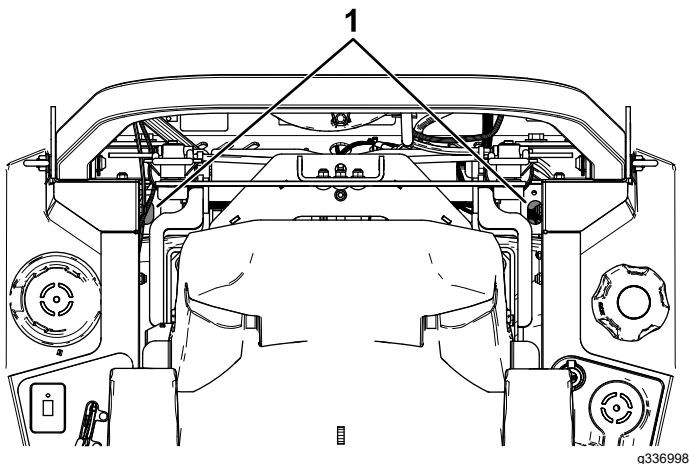

Figure 70
4. Using an extension and 7/16-inch socket, access the vent plug from the top of the machine through the holes near the roll-bar mounts (Figure 70).